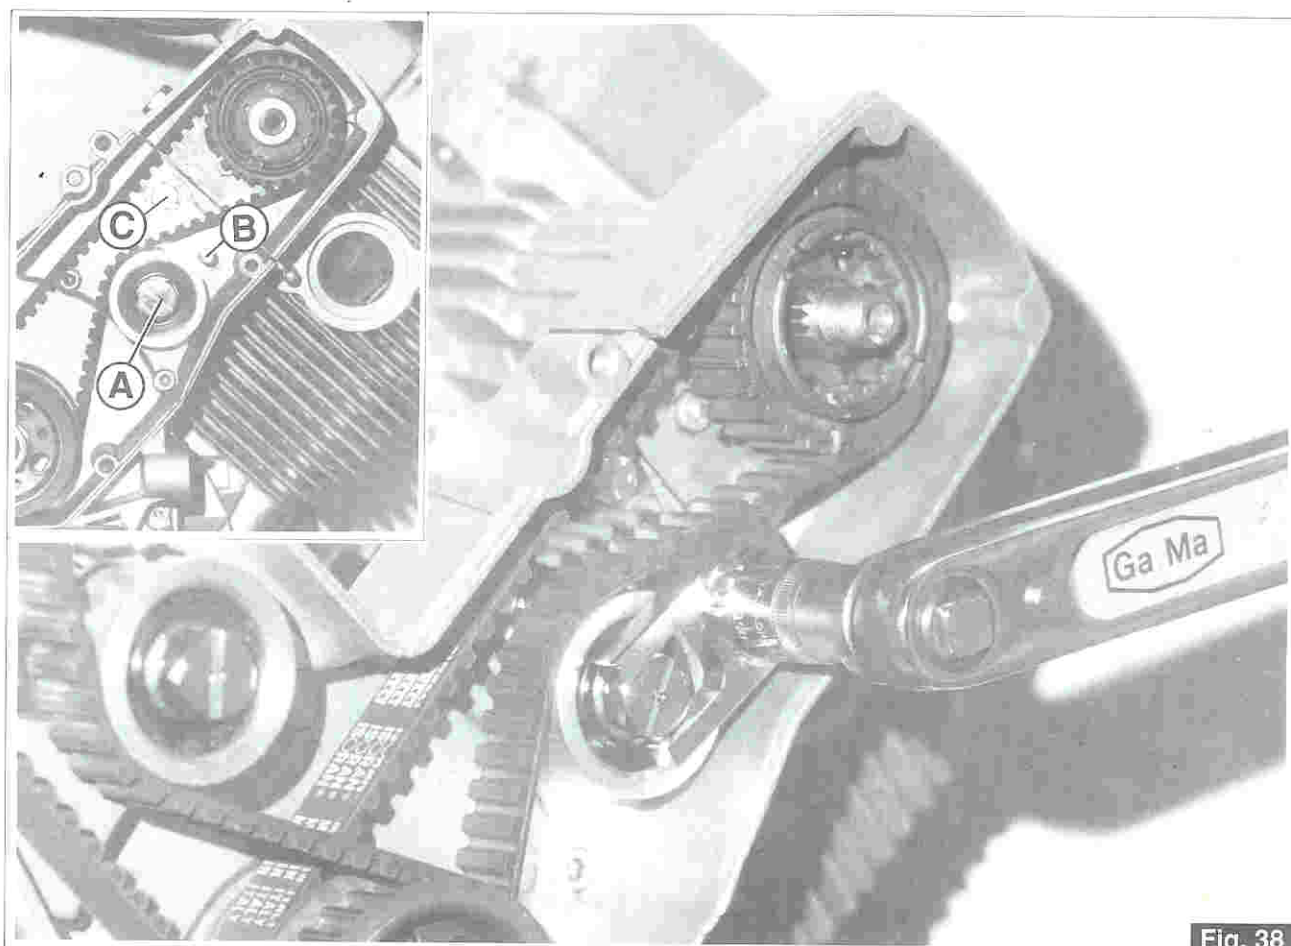

Fig. 38
**N.B.** - The belts must always be stretched with the piston in the TDC position, in the combustion phase (closed valve) or with the upper cam shaft drive pulley without inner gears as shown in figure 38.